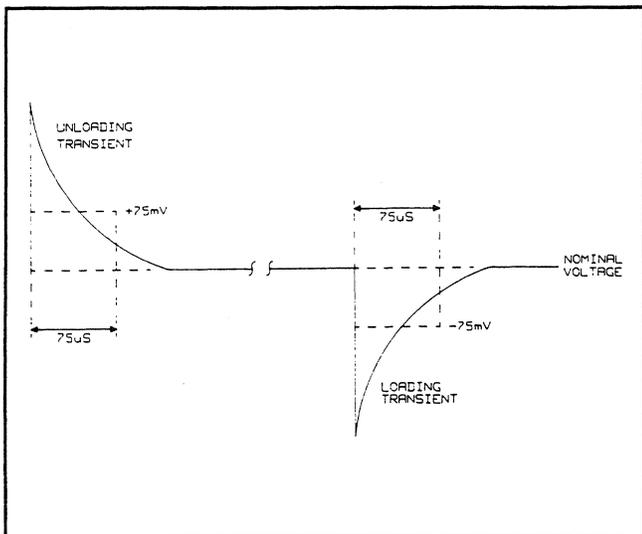

Figure 3-9. Transient Response Waveform
- Adjust the oscilloscope trigger level for a stationary waveform as shown in Figure 3-9 and check that the loading transient is within 75 mV of its final value in less than 75  $\mu$ s.
- Change the oscilloscope settings to + slope and repeat steps g and h for the unloading transient (see Figure 3-9).